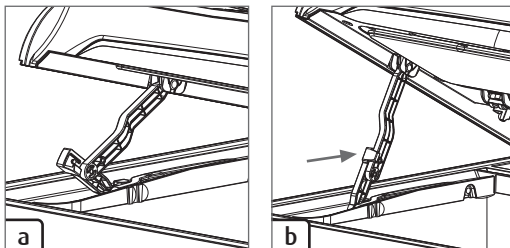

Figure 20: Securing the hood supports
3. With your free hand, snap the upper and middle legs of the hood supports together on both sides and position the hole at the top of the upper leg in the recess provided in the hood. Insert the upper support pins to connect the supports to the hood (some force might be required) (Fig. 20).